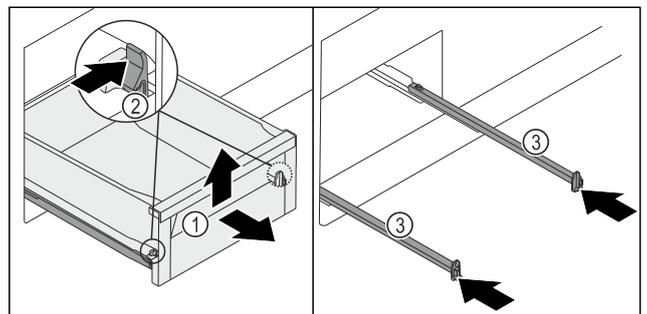

Fig. 127
- ▶ Pull the drawer Fig. 127 (1) out as far as it will go.
- ▶ Press the left and right clamp Fig. 127 (2) inwards at the same time.
- ▶ Drawer Fig. 127 (1) detaches from the rails.
- ▶ Lift up the drawer Fig. 127 (1) forwards.
- ▶ Remove the drawer Fig. 127 (1) forwards.
- ▶ Push in the rails Fig. 127 (3).